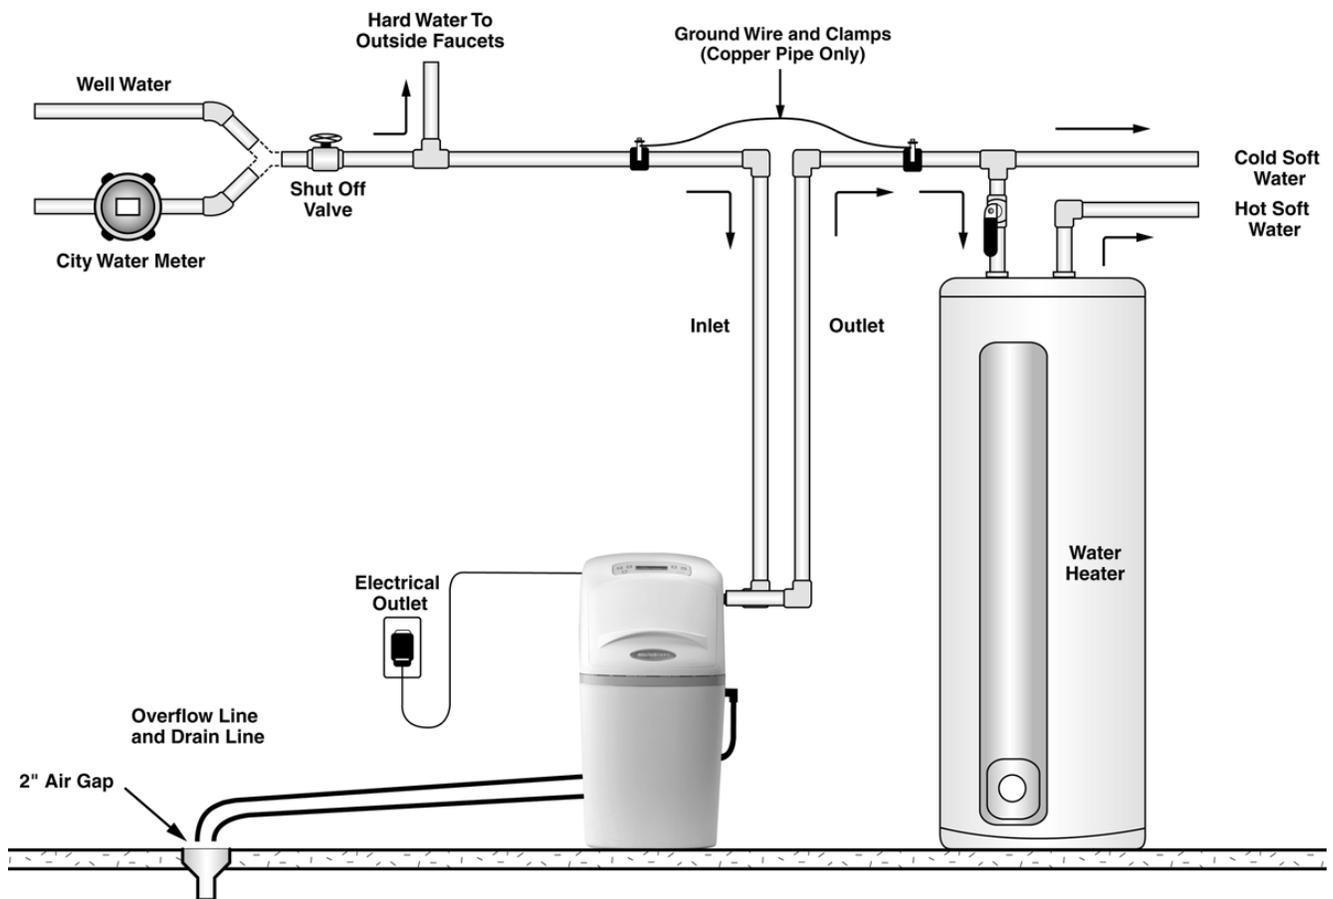

Figure 1: Appliance Placement (With Optional Built-in Bypass)
- F. Place your appliance in the desired location using Figure 1 as a guide. The diagram applies to basement, slab, crawl space, under counter, and outside installations.